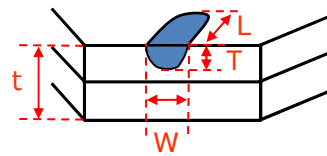

Fig.2
| | (B) $W \leq 3, L \leq 0.6, T < 1/2t$ | Ignore | Fig.2 |